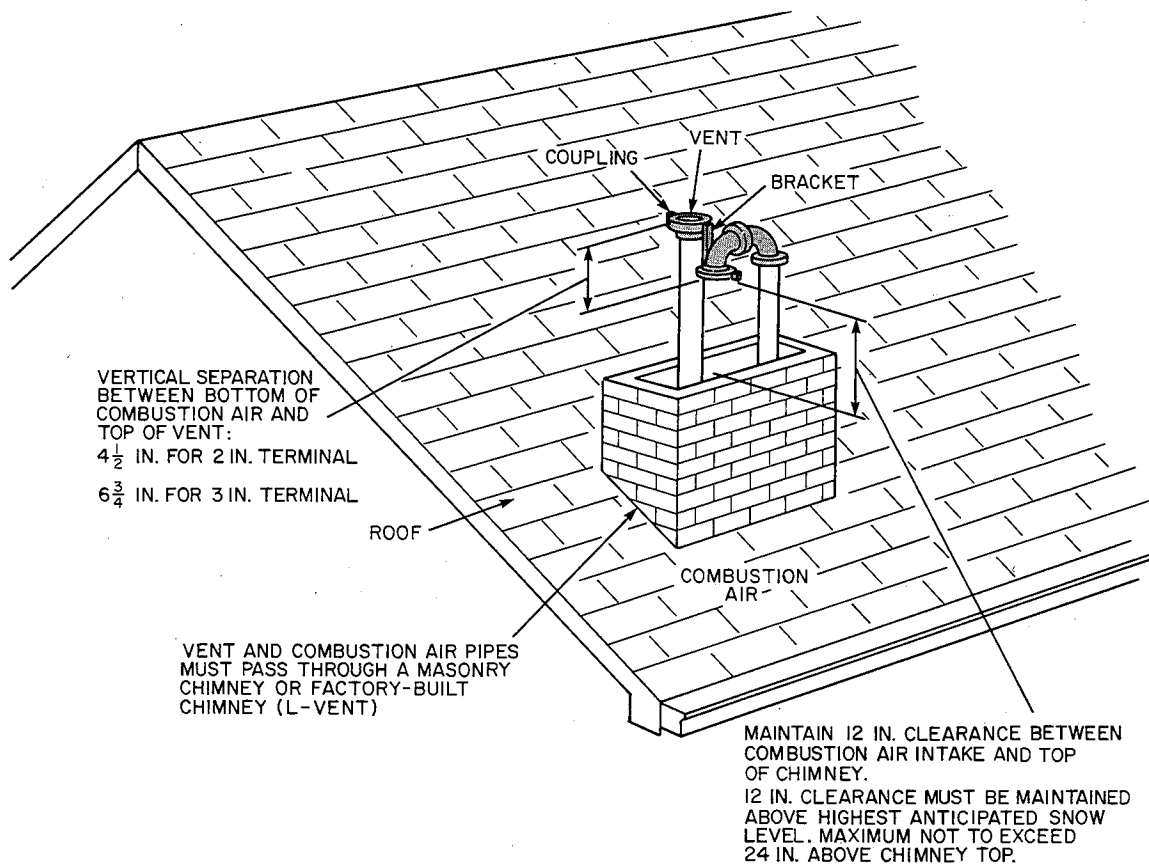

Fig. 1—Rooftop Vent Termination
ROOFTOP VENT TERMINAL INSTALLATION (Fig. 1)
3. Loosely install pipe coupling, provided in kit, on properly cut vent pipe. Position coupling so that bracket will mount as shown in Fig. 1.
5. Install bracket as shown in Fig. 1.